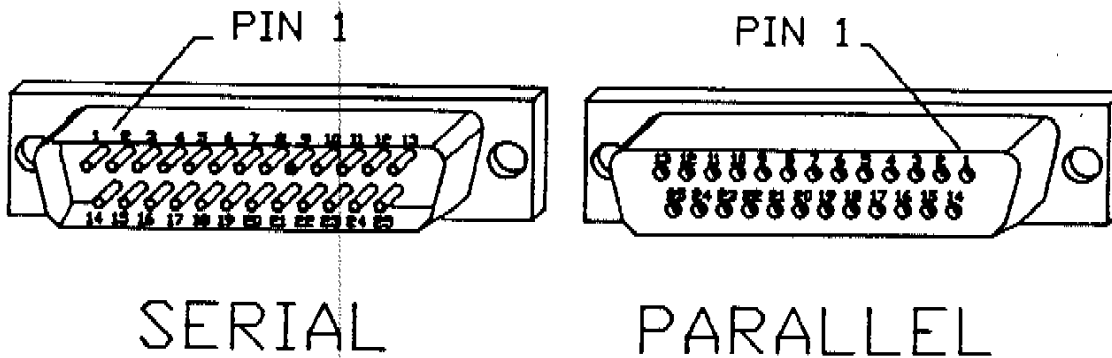

Figure 2-1
2. Know what you are connecting. Patton Electronics Co. is not liable or responsible for damages to your equipment due to improper installation (i.e. plugging a parallel device into a serial port). If you are unsure whether a particular device is serial or parallel contact the device manufacturer for information. The Simple Sharing Switch uses different connectors for serial and parallel. the connectors and their pinouts are shown in figure 2-1. Note that serial and parallel ports have different pinouts.